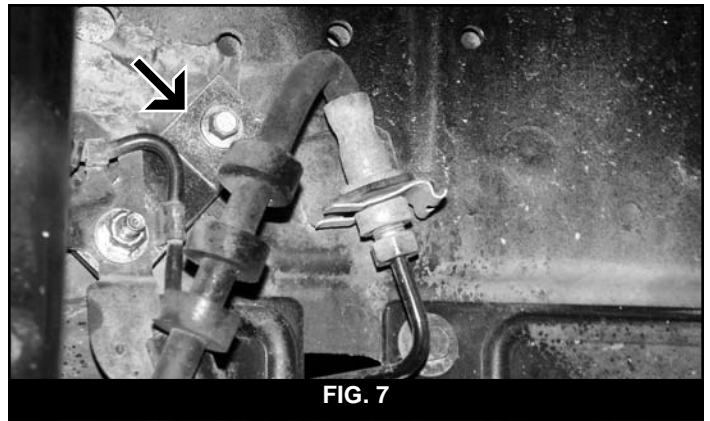

FIG. 7
20. Install the ABS wire to the relocation bracket with a 1/4" nut and washer and tighten securely (Fig 7).